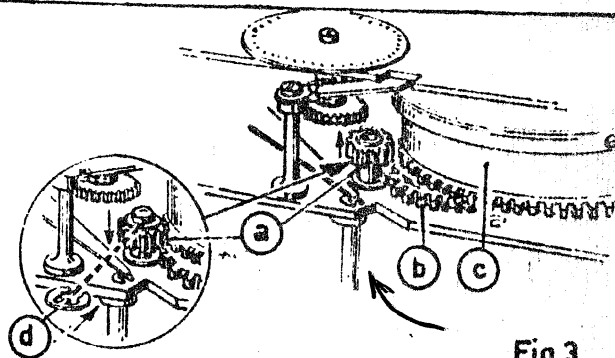

Fig 3
Prior to this operation, let the motor spring run down completely after having disengaged pinion (a) (fig. 3) which connects the spring motor to gear wheel (b).
3. Aligning the spring motor (fig. 3)